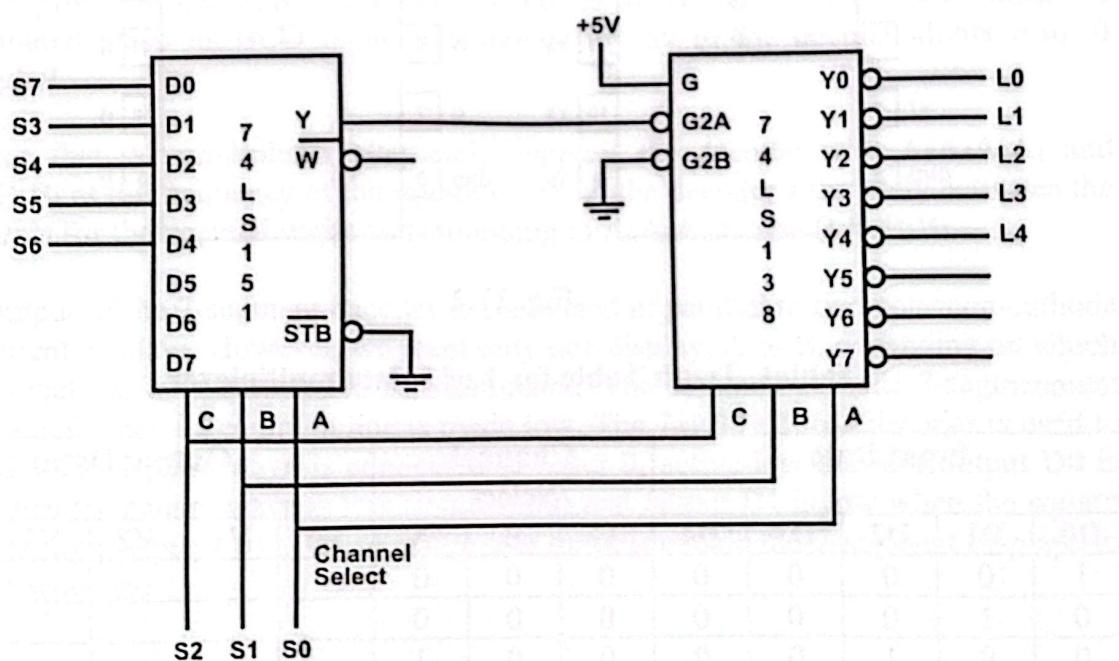
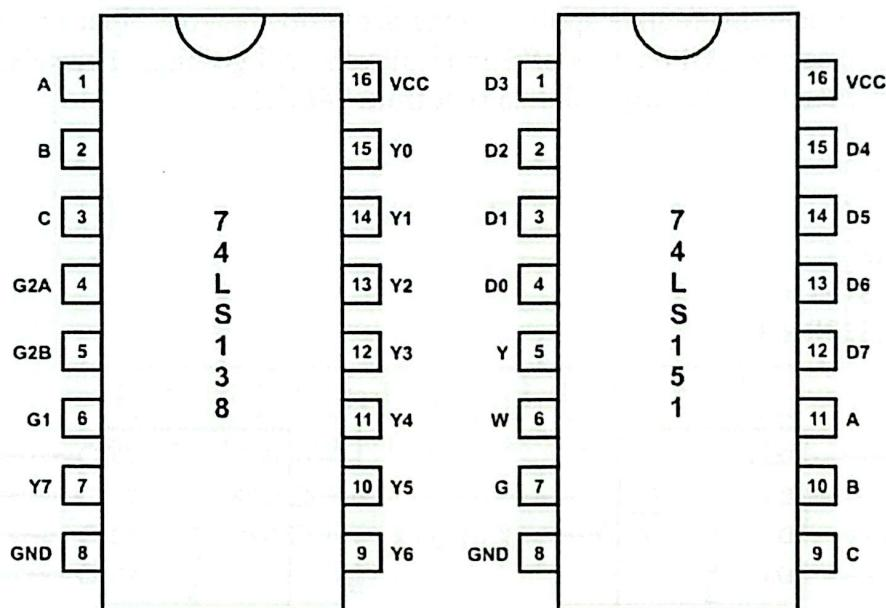

Fig. 17.1
Fig. 17.2
As shown in figure 17.1, the 74LS151 functions as a 1-of-8 multiplexer. The 3-bit select code will command which of the data inputs will be steered to the Y output. This same 3-bit code will be applied to the select inputs of the 74LS138 demultiplexer. Instead of running eight separate data lines, this circuit employs one multiplexed data line and three lines of select code. This saves a total of four lines.
The select code of the desired data line (0 through 7) is applied to select inputs of both ICs as shown in figure 17-1. If the selected data is low, the Y output of 74LS151 will go low. This low is applied to the G2A enable input of 74LS138 which will enable the IC and the output that corresponds to the select code will go low and match the original data from 74LS151. If the selected data is high, the Y output of multiplexer will go high. When this high is applied to the active-low enable input of 74LS138, IC will become disabled. All outputs of demultiplexers will go high. The selected output will be high, matching the original data sent from 74LS151.
4. Wire the circuit according to the diagram in figure 17-1 by consulting data sheets in figure 17.2.